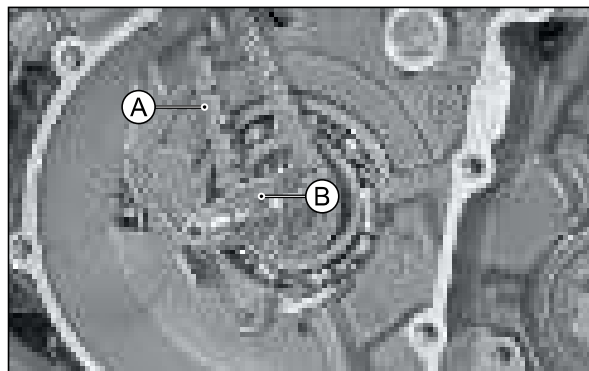

Fig. 3.137
- Take out the cam chain (A) and woodruff key (B) from the crankshaft complete. (Fig. 3.137)